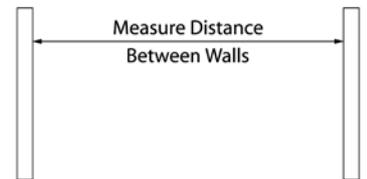

Fig.4
6. Accurately measure the distance between the fixing surfaces. Carefully cut one end of the assembled rod 42 mm shorter than the measured distance between the fixing surfaces (see Fig. 4). Ensure the end of the rod is cut square and the cut edge is de-burred.